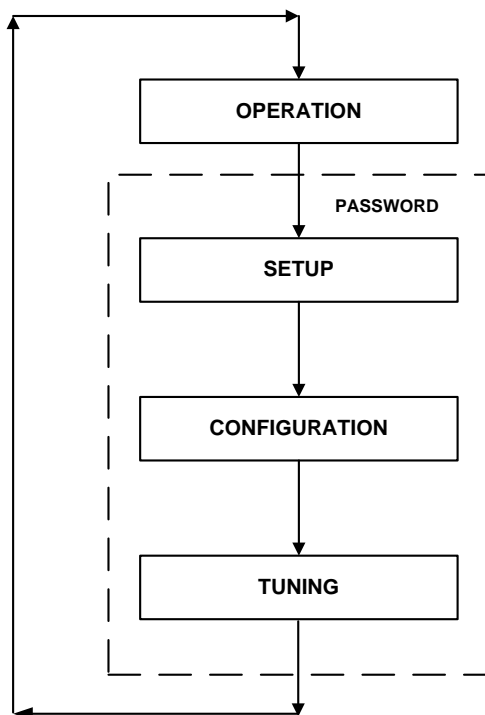

Figure 3-2. Menu Structure
The Control Panel incorporates an extensive menu structure which permits the operator to set up, and configure the unit. The menu structure consists of four major menu categories as shown in Figure 3-2. Each of the menus shown, contain options which permit operating parameters to be viewed or changed. The menus are protected by a password to prevent unauthorized use.
2. Press the **MENU** key. The display will show the Setup Menu which is the next menu category shown in Figure 3-2. This menu contains the Password option which must be entered if other menu options will be changed.